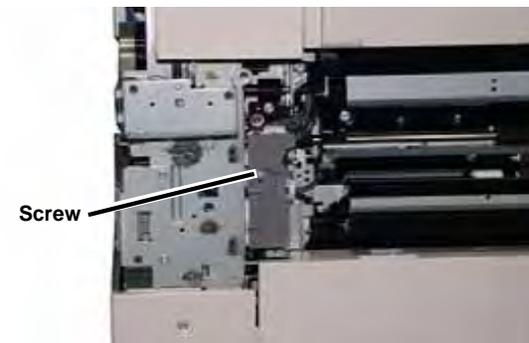

Figure 3 Removing Screw
6. Remove the harness cover (1 Screw) (Figure 3).